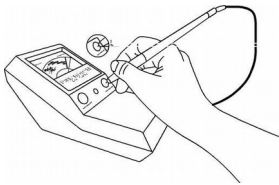

Fig. 1.4
- Press the probe tip onto the simulant test disc located on the left of the indicator lamp (**Fig.1.4**). Apply sufficient pressure to retract the protruding tip completely into the probe pen. The indicator should rise to and remain within the white strip (preferably at the center of white strip) with "CAL" printed on top, within two to three seconds.